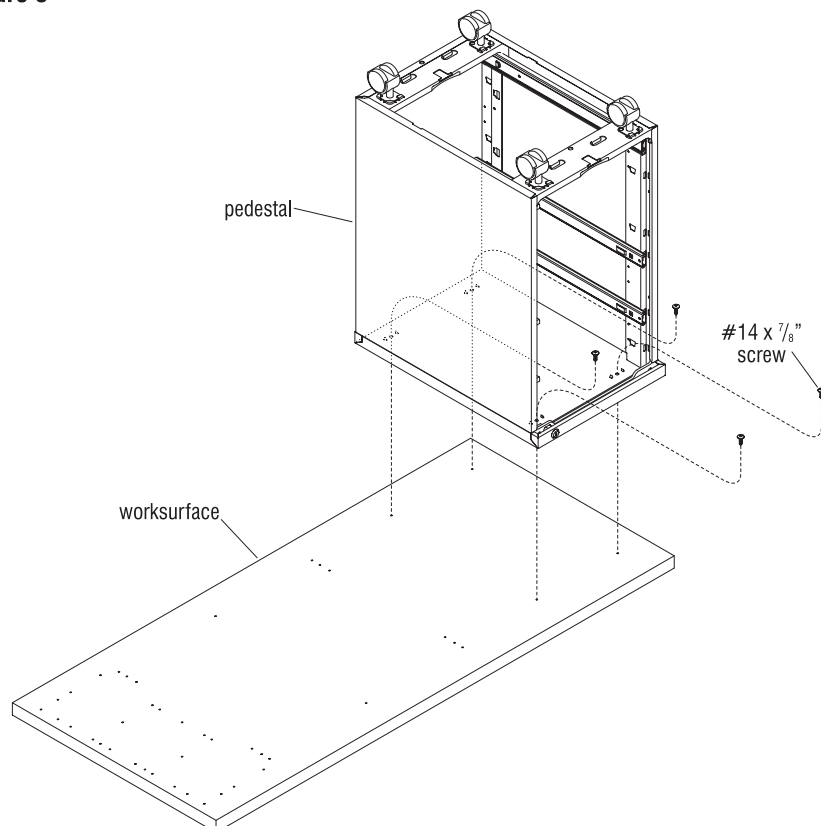

Figure 4
9. Place worksurface with backer-side facing upwards on a clean, soft protective surface to avoid scratching the top. Determine the location where the pedestal will mount on the worksurface (left pedestal location shown in Figure 4).
10. Turn the pedestal over and carefully place it onto the worksurface with the four holes in the top of the pedestal aligning with the pre-drilled worksurface holes (Figure 4).
11. Insert four #14 x $\frac{7}{8}$ " screws through the holes in the top of the pedestal. Twist the screws into the pre-drilled holes in the worksurface, securing the pedestal to the worksurface (Figure 4).